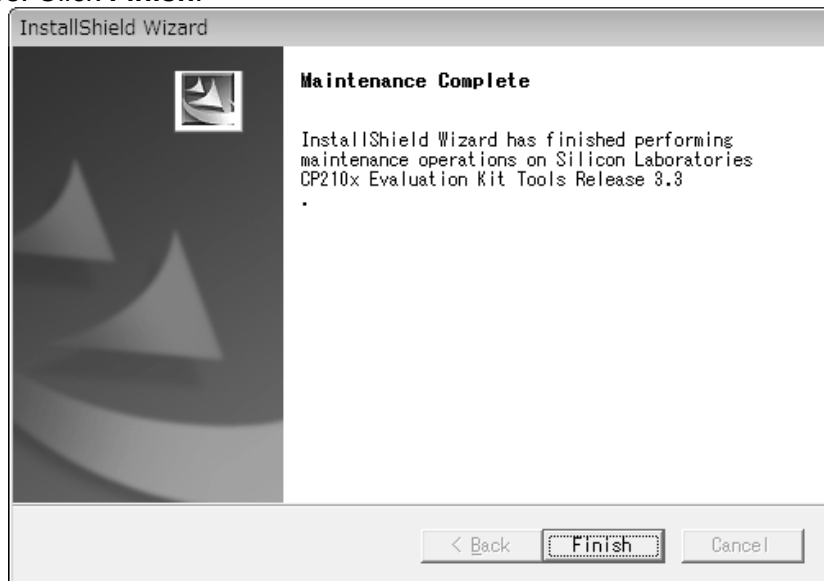

Fig. 88 Uninstallation Complete
(8) Click **OK** to start uninstallation. When the uninstallation is completed, the screen shown in Fig.88 appears. Click **Finish**.